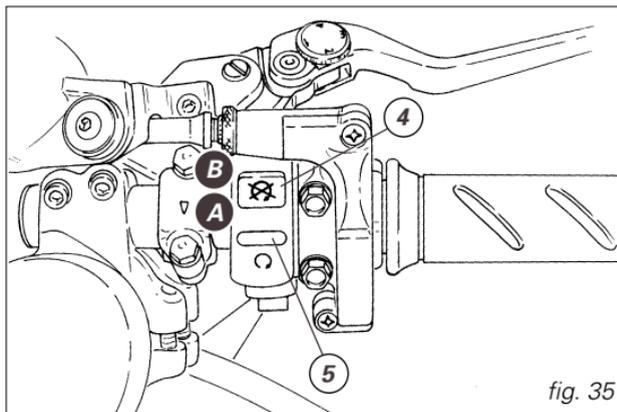

fig. 35
Check that the switch (4, fig. 35) is in the (A) position.